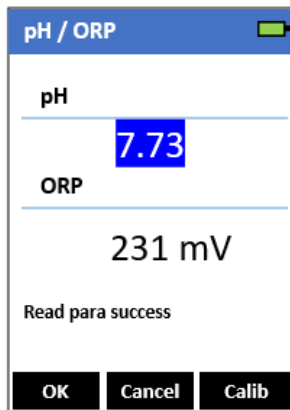

Figure 13.
5. The pH and ORP values will be updated every two seconds on the SP-208 main module display. The values will be displayed in white with a **blue background** once a stable value is reached (Figure 13).
1. Press **Measure** (  ) to switch the measurement mode to **pH/ORP** mode (Figure 13). This will automatically power on the pH/ORP module. The indicator light of the module will be **green** and flashing when powered on. The main module of the SP-208 will automatically connect after the pH/ORP module has been powered up.